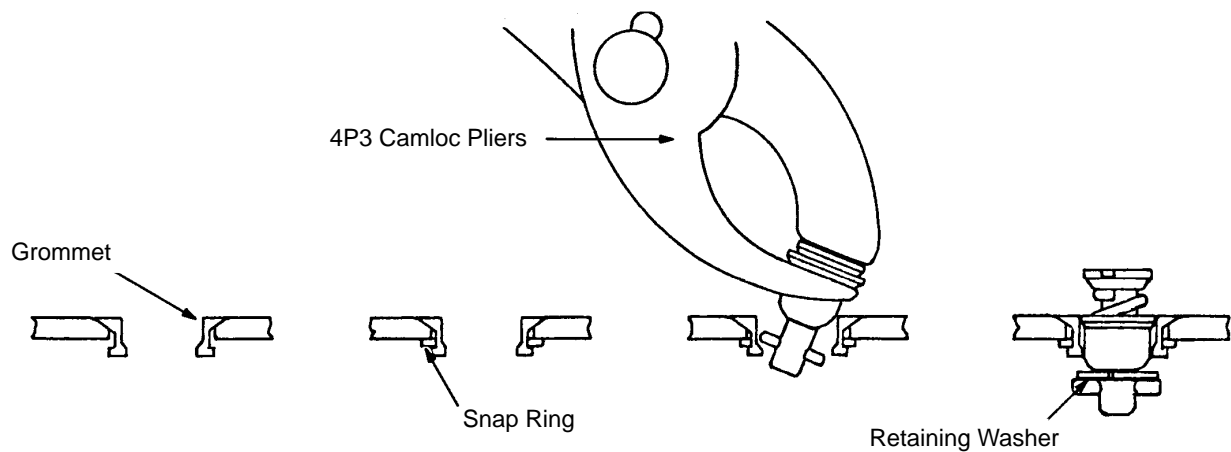

Figure 9 - Installation of Non-Sealed 4002 Series Grommet and Stud
- Step 4. Insert the mandrel into the grommet and push the tool handle over the mandrel until the snap ring is fully seated behind the shoulder of the grommet. See Figure 9 for the position of the snap ring when fitted.
- Step 5. Install the stud using 4P3 Camloc pliers. The retaining washer shown in position in Figure 9 is required for stud lengths -16 and greater (except sealed studs 40S37). 4P3 Camloc pliers are not required to install stud assemblies -16 and larger.